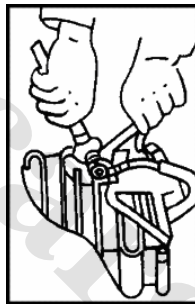

Figure 6-35
- (1) When loosening, two wrenches should be applied to avoid damaging pipe fittings. Figure 6-35.